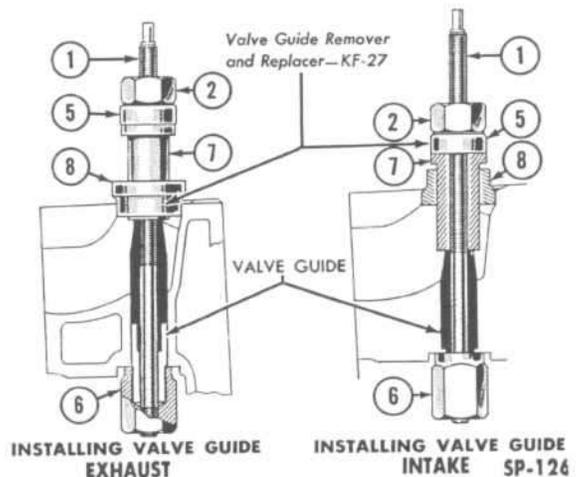

FIG. 67—INSTALLING VALVE GUIDE IN CYLINDER BLOCK
To replace a valve guide, place the guide (tapered end toward the top of the block) in the proper position in the bore. Assemble Valve Guide Remover and Replacer KF-27 as shown in Fig. 67, using the collar (8) with the proper end set into the valve port bore as required, and the recessed nut (6) at